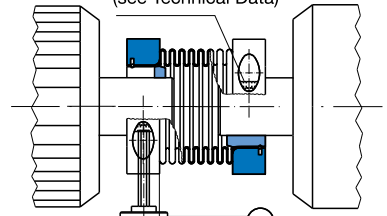
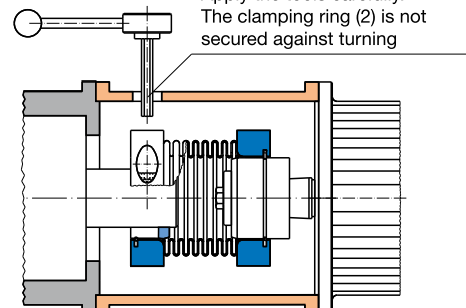

Fig. 6
Fig. 8
– see also Fig. 6 and Fig. 8
2. Push the entire coupling over the whole length of the reducing bushing (5) onto a shaft.
– see also Fig. 7 and Fig. 8
1. Remove the clamping ring (2) with the protruding reducing bushing with tapered bore (6) from the coupling.
3. Push the reducing bushing with tapered bore (6) onto the conical shaft.
4. Secure the reducing bushing with tapered bore (6) using a nut or screw with press cover.
5. Push the rest of the coupling with the open steel bellows side up to its limit between the clamping ring (2) and reducing bushing with tapered bore (6).
6. Tighten the cap screw (4). The screw tightening torque (see Technical Data, page 4) must be observed.
7. Push the second shaft over the entire length of the reducing bushing (5) into the coupling.